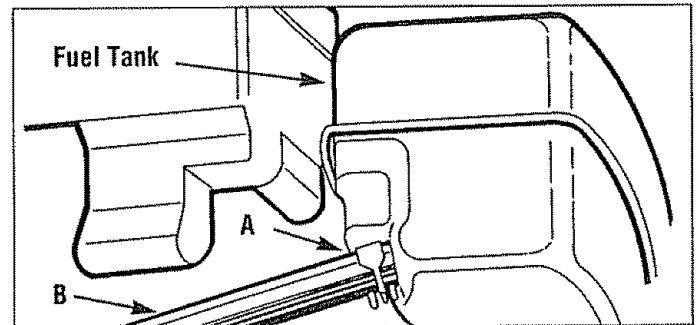

Figure 31: Hose clamp and fuel line.
- b. Using adjustable pliers, squeeze the tabs on the hose clamp (A in Figure 31) that secures the fuel line (B) to the fuel tank fitting. Slide the clamp a few inches down the fuel line.